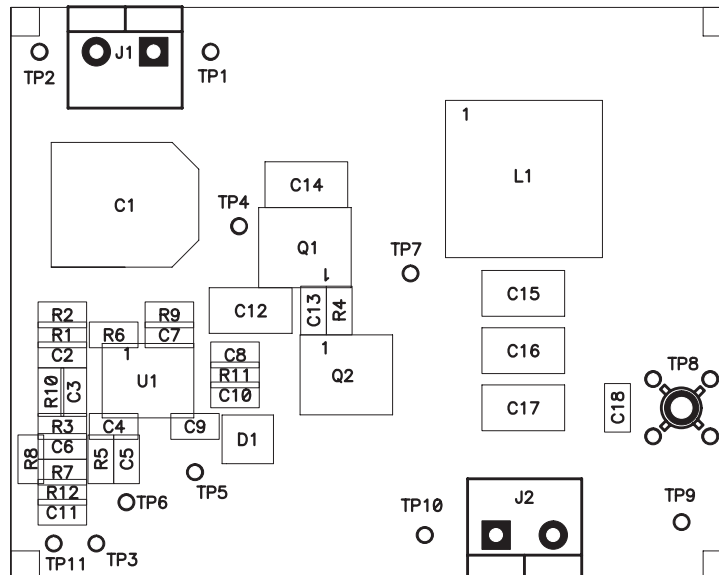

Figure 9. Assembly Drawing
**NOTE:**Some components are omitted for clarity. See Figure 9 for more detail.
The assembly drawing which shows the PCB outline and the parts placement is shown in Figures 9 through 13.